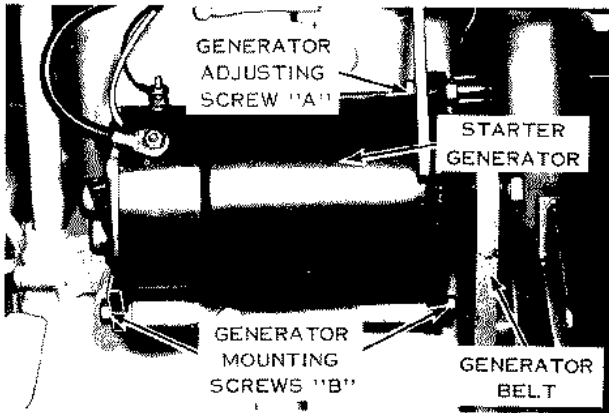

Figure 5
6. Check generator belt for proper tension. Belt should depress 1/4 inch between pulleys with normal thumb pressure as shown in Figure 5. Should adjustment be required, shut engine off, loosen the 2 lower generator mounting screws "B" and generator adjusting screw "A". Pivot generator outward from engine until proper tension is obtained.